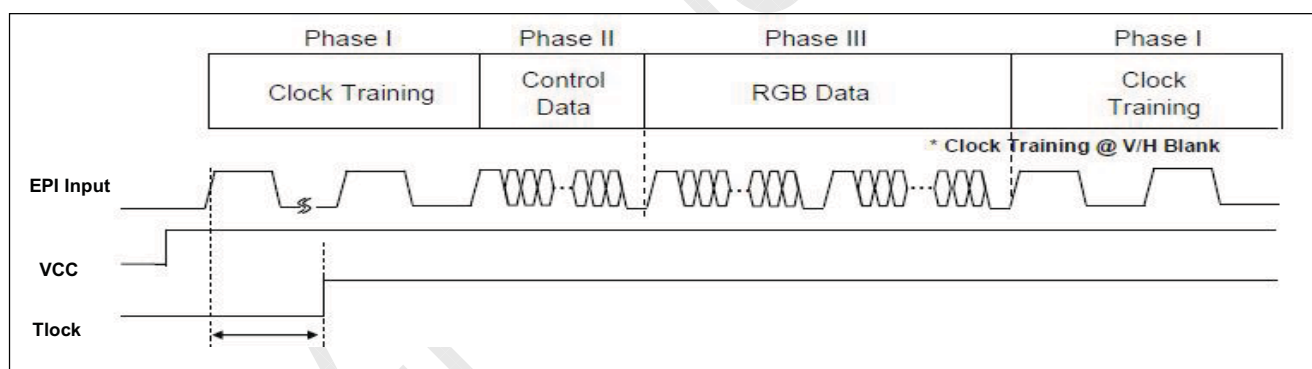

FIG 4. Power On to DLL Lock time
- Viewing angle is the angle at which the contrast ratio is greater than 10. The angles are determined for the horizontal or x axis and the vertical or y axis with respect to the z axis which is normal to the LCD module surface. For more information, see the FIG. 4.